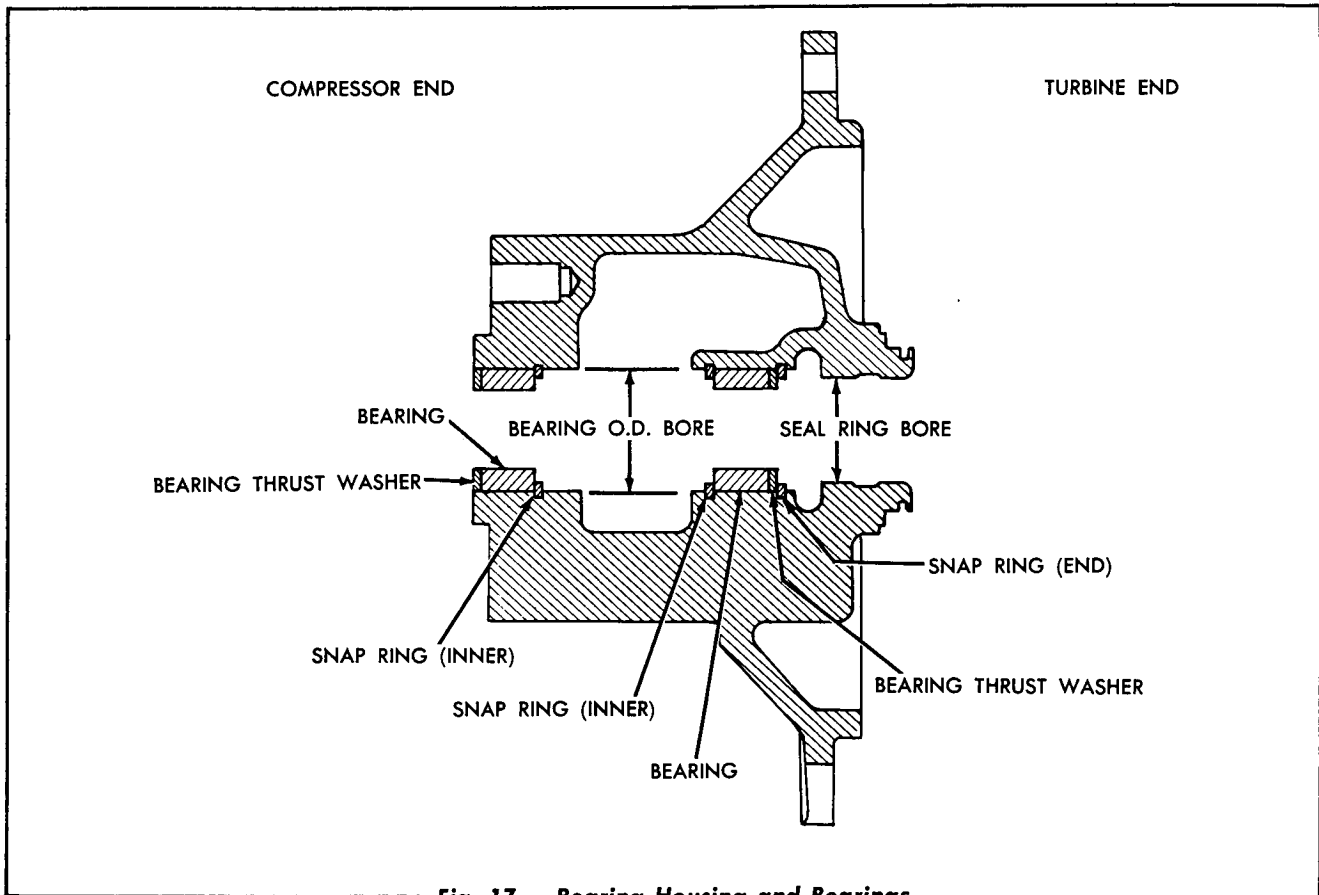

Fig. 17 - Bearing Housing and Bearings
- a. Because the seal ring bore in the bearing housing is smaller in diameter than the bore for the bearings, it is necessary to remove the turbine end bearing, bearing thrust washer and snap rings from the compressor end of the bearing housing. (Fig. 17).
- b. Install turbine end bearing as follows: (Fig. 17).